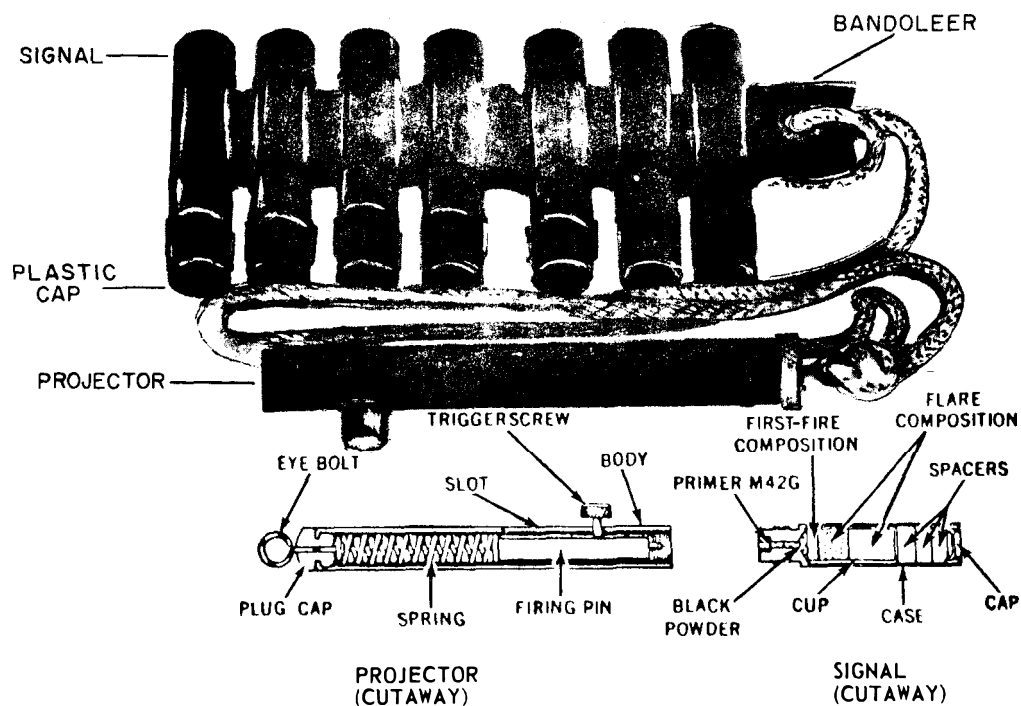

Figure 9-25. Personnel Distress Signal Kit, A/P 25S1
- (3) A/P 25S1, Personnel Distress Signals Kits (see figure 9-25)